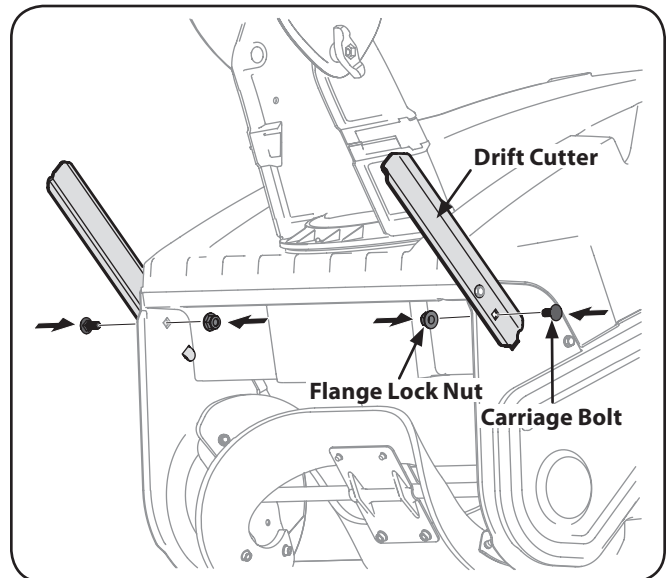

Figure 3-6
2. Install the drift cutters and secure with the carriage bolts and flange lock nuts removed in step 1. See Figure 3-6.